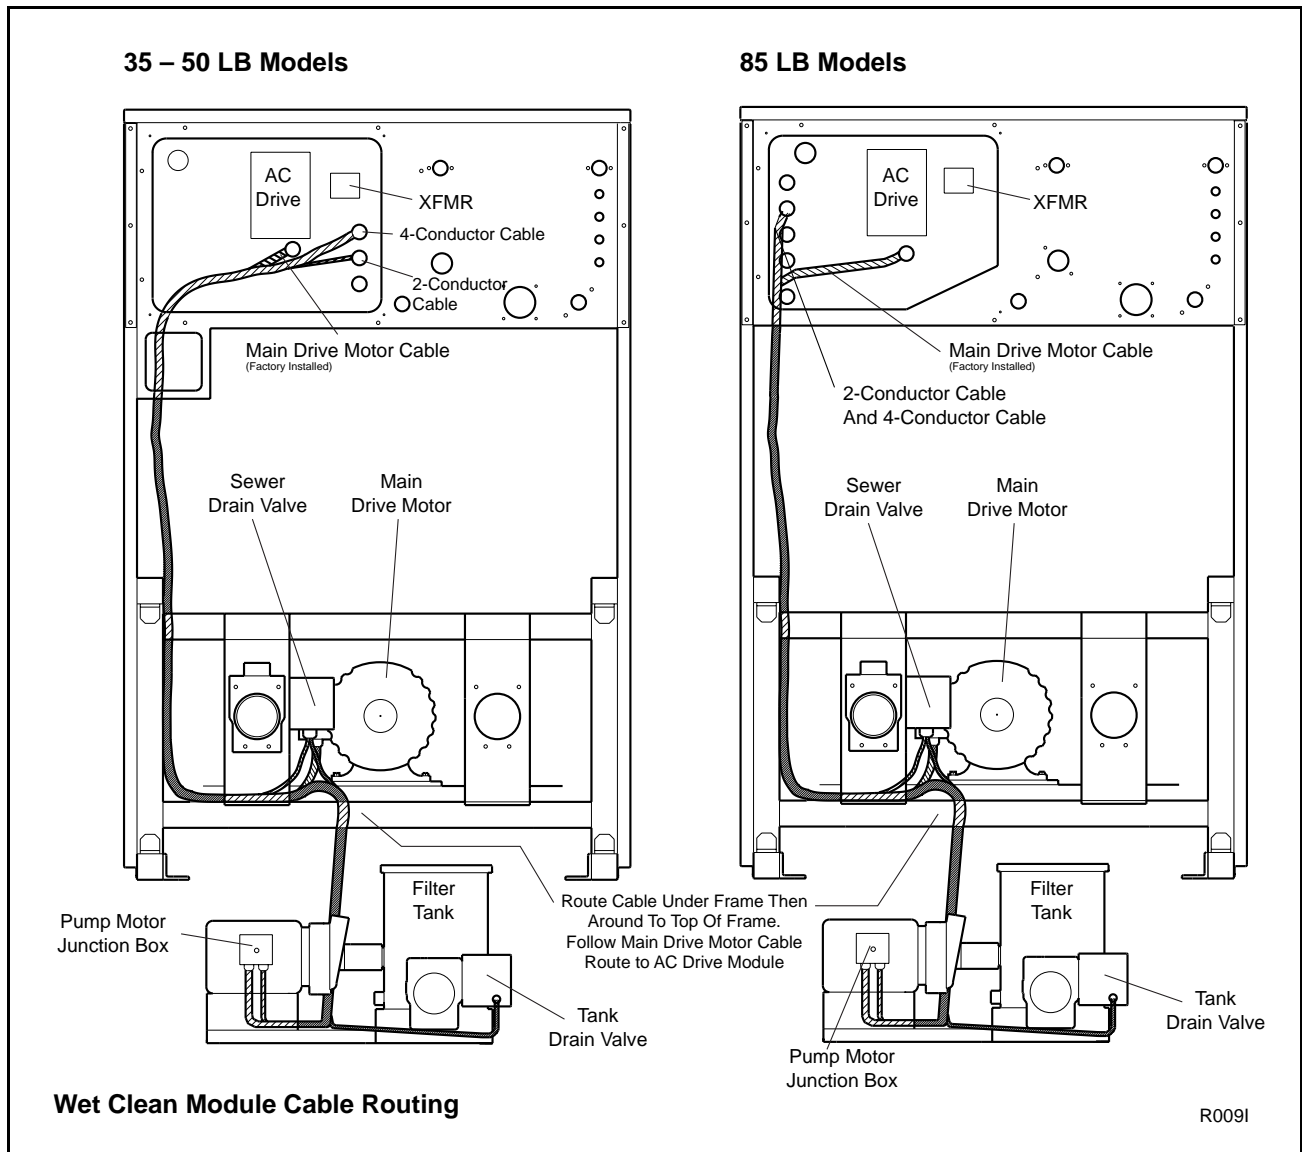

Figure 25
- c. Route 4-conductor and 2-conductor cables along the frame of the washer-extractor, following the same routing as the main drive motor cable. Allow sufficient clearance between the cables and any moving parts of the washer-extractor. See Figure 25.
**Note:** Route cables underneath the frame as shown in Figure 25.